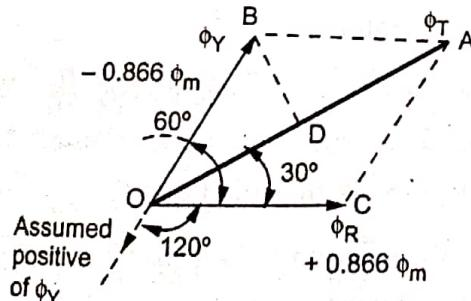

Fig. Q.54.3 Vector diagram for  $\theta = 60^\circ$
- So  $\phi_R$  is positive and  $\phi_Y$  is negative and hence drawing in appropriate directions we get phasor diagram as shown in the Fig. Q.54.3.